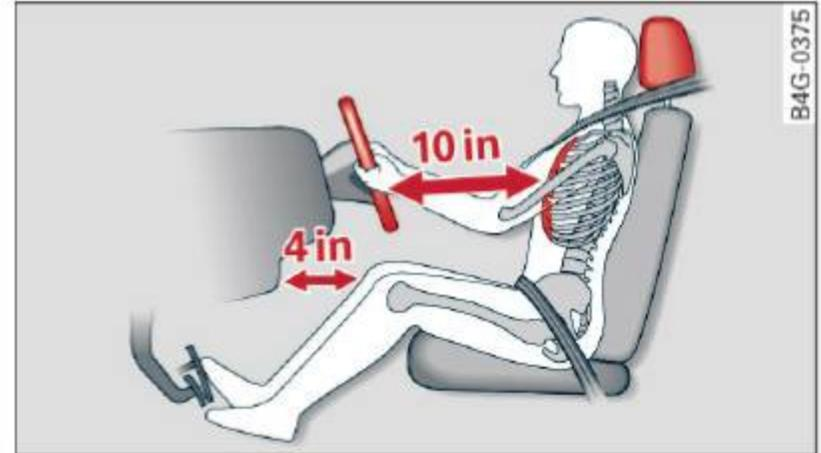

Fig. 139 Correct seating position
- ▶ Adjust the steering wheel so that there is a distance of at least 10 inches (25 cm) between the steering wheel and your breast bone ⇒ *fig. 139*. If not possible, see your authorized Audi dealer about adaptive equipment.